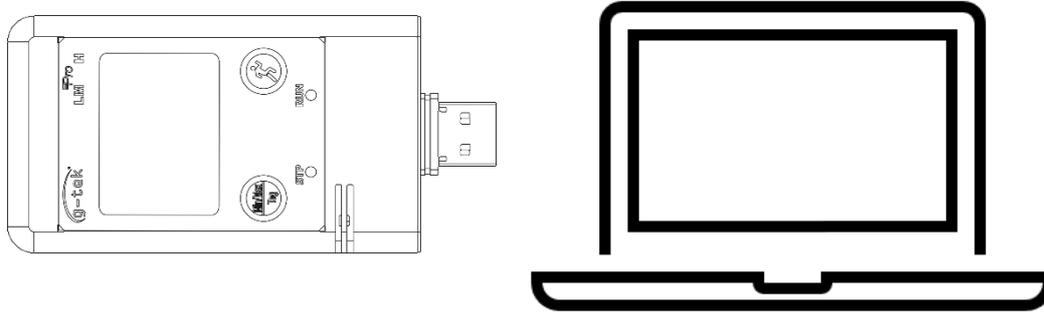

Figure 12 USB Type- A connection
- Connect the LMPro H data logger with Windows PC via the USB port, as shown in figure 12.